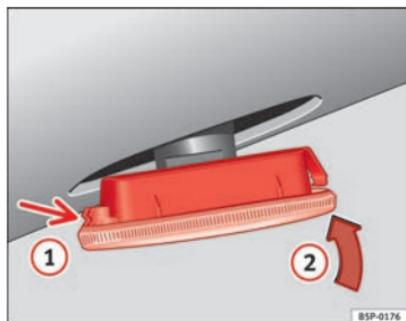

Fig. 164 Side turn signals
- First fit the turn signal in the opening in the chassis, fastening the tabs ① ⇒ fig. 164, and then fit in the bulb as shown by the arrow ② ⇒ fig. 164.